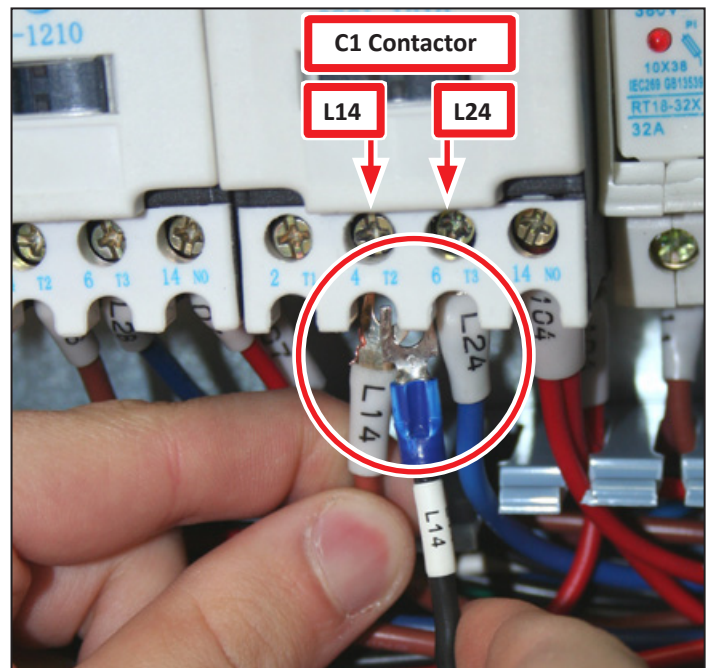

Figure 20
10. Route the loose ends of the Power Connection Block (wires **L14** and **L24**) through the Wire Troughs and to C1 Contactor (see **Figure 14** and **Figure 20**).
11. Loosen the terminal lock screw above wire **L14**, and then piggyback **L14** spade terminal onto the existing **L14** connection on C1 Contactor (see **Figure 20**).
13. Loosen the terminal lock screw above wire **L24**, and then piggyback **L24** spade terminal onto the existing **L24** connection on C1 Contactor (see **Figure 20**).